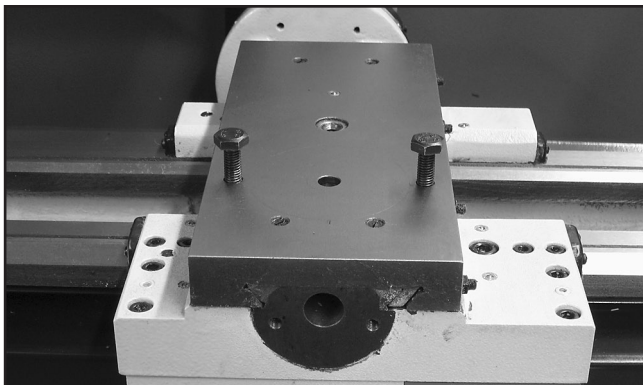

Figure 23. Leadscrew unthreaded from housing.
2. Hold the cross slide still and rotate the handwheel clockwise to unthread the leadscrew from the cross slide. **Figure 23** shows the leadscrew unthreaded from the cross slide.